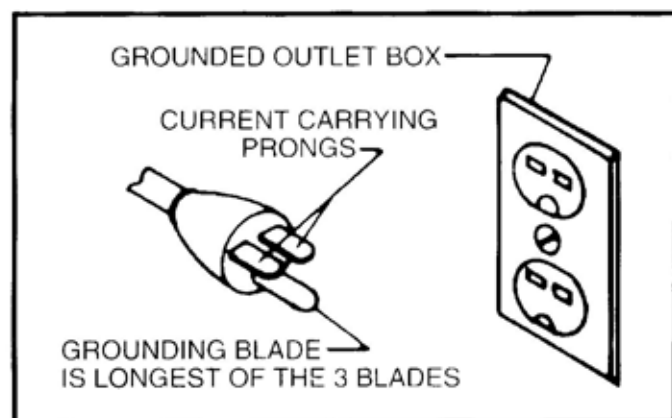

Fig. 32
6. The 115 Volt plug, supplied with the motor, must be replaced with a 230 Volt plug that has two flat, current-carrying prongs in tandem, and one round or "U" shaped longer ground prong, as shown in Fig. 32. This plug is used only with the proper mating 3-conductor grounded receptacle, as shown in Fig. 32.